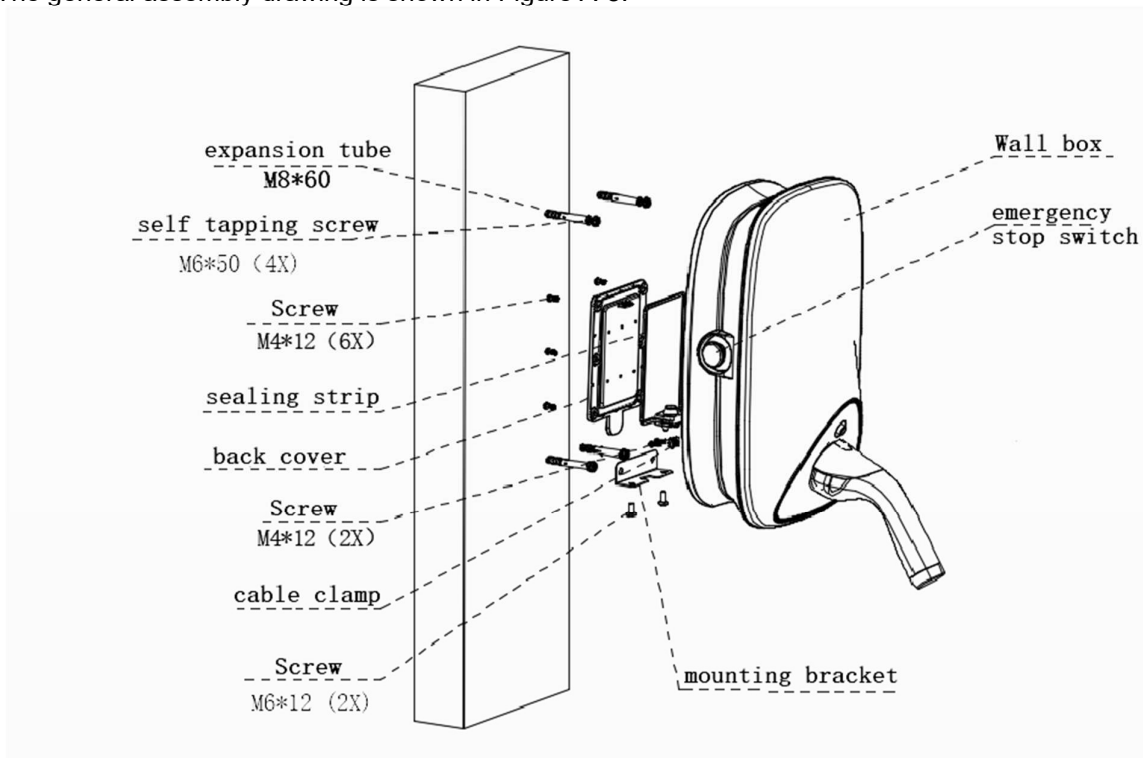

Figure A-8 General assembly drawing of wall-mounted charger
□The general assembly drawing is shown in Figure A-8.